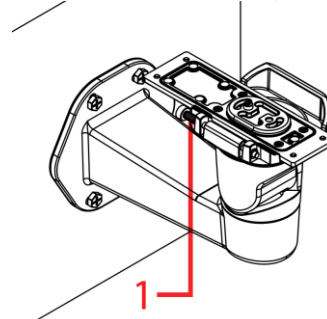

Figure 4
- Push the pin (1) (Figure 4) from the mounting arm hinge.